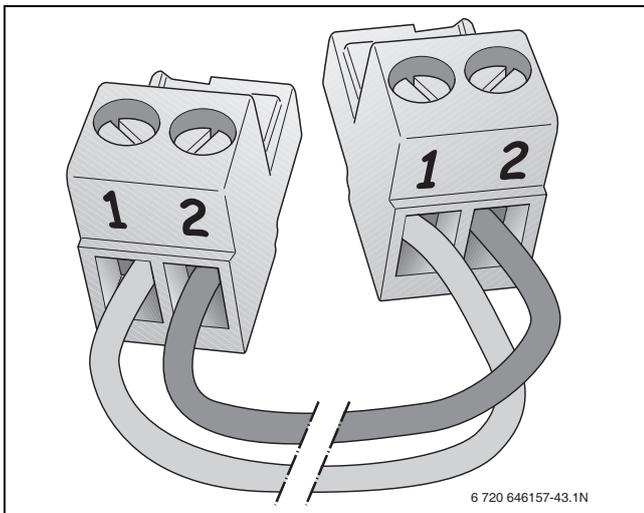

Fig. 47 EMS bus polarity
- ▶ Make an EMS bus connection cable using a 2-core cable and the connector enclosed with the module (→ fig. 47).